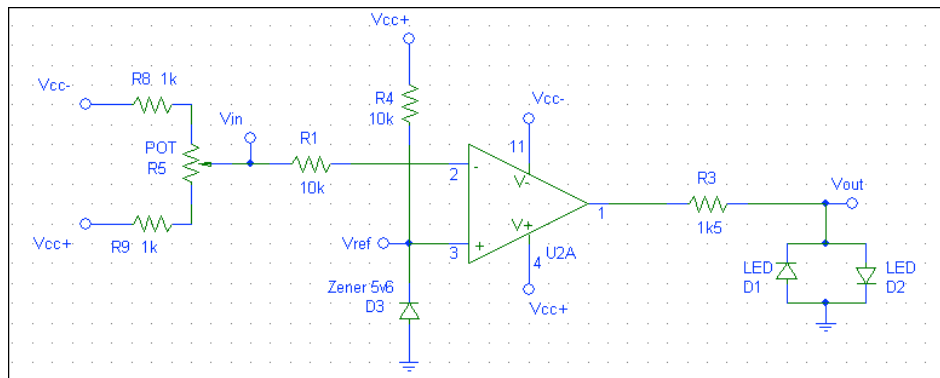

Fig. 3 Comparator
5. Solder circuit illustrated in fig. 3. Connect the universal counters so that they show V_{in} and V_{ref} voltages.